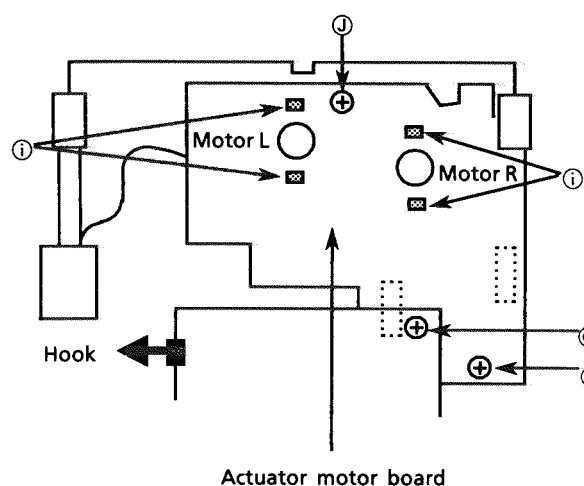

Fig. 31
1. Unsolder 4 soldered point ① for both motors. (See Fig. 31.)
2. Remove a screw ③ securing the CD servo board. (See Fig. 31.)
4. Remove 2 screws ① securing the actuator motor board. (See Fig. 31.)